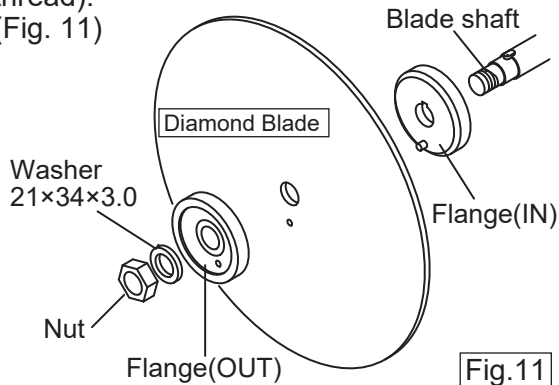

Fig.11
1. Install Flange (IN), Diamond Blade and Flange (OUT) in such order to the blade shaft and tighten sufficiently with Nut (left hand thread). (Fig. 11)